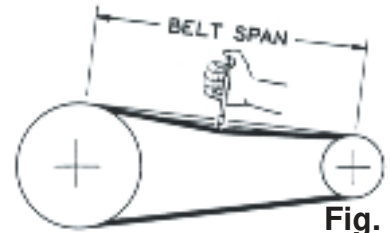

Fig. 3
1. Loosen jam nuts (E) located on the adjustment bolts (B).
2. Tighten the engine plate adjustment bolts (B) an equal number of turns until correct belt tension is obtained. Maximum belt play should be from approximately  $3/16"$  at 7.5 ft/lbs for new belts and 4.5-5 ft/lbs. for used belts the center of the span. (refer to fig 3) New belts should be re-tensioned after the first 10-12 hours of operation.
3. Tighten the jam nuts (E).